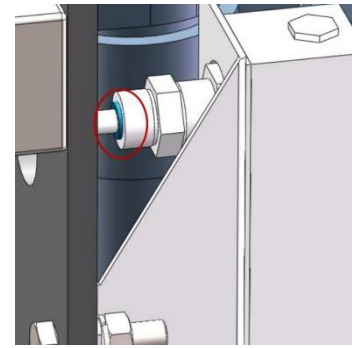

Figure. 3
3. Press the blue part in the red circle to separate the float flow meter from the pipeline, as shown in Figure.3